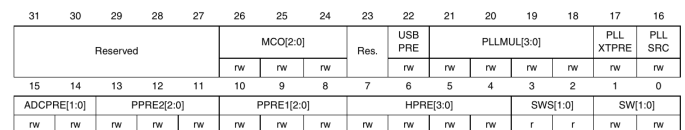

Fig. 1.4: RCC clock Configuration Register (RCC- >CFGR)
**Solution:** Fig. 1.4 shows the RCC- >CFGR register. The above instruction makes the HSE as the system clock through SW = 01.